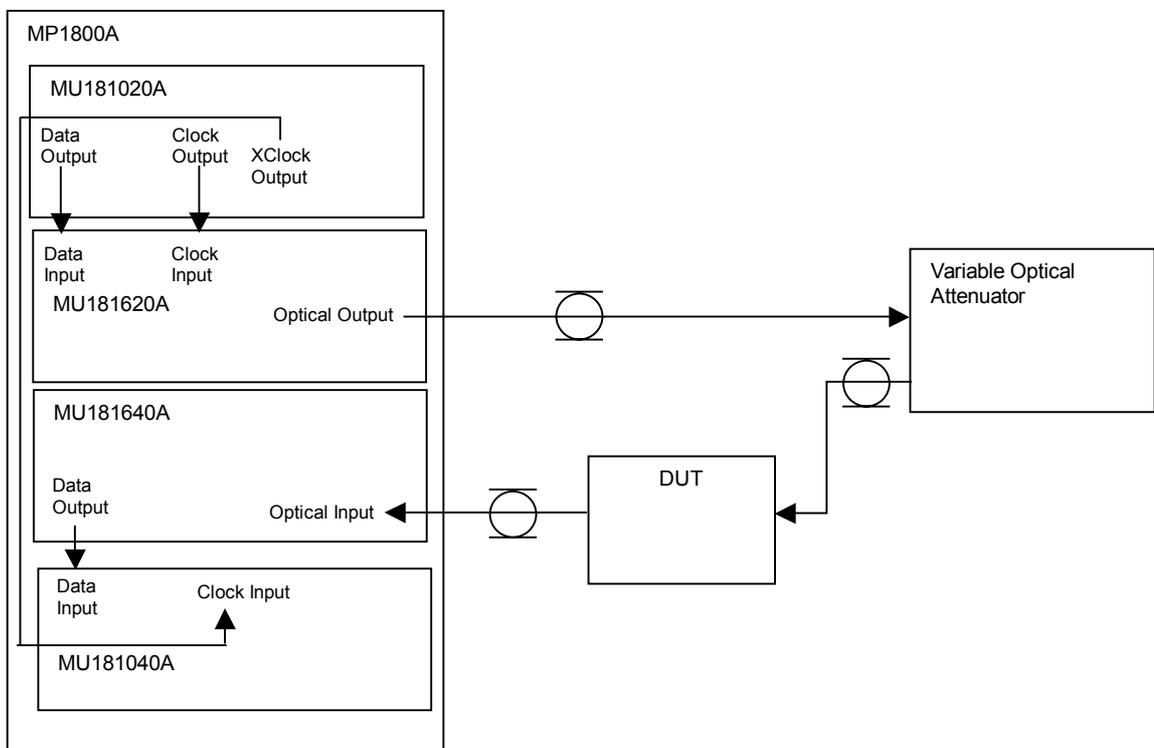

Fig. 5.1.1-1 Connection diagram
1. Connect the Optical Input connector of the DUT (device under test) and the Optical Output connector of the MU181620A via a variable optical attenuator, and connect the optical output signal of the DUT to the Optical Input connector of the MU181640A (see Fig. 5.1.1-1). Next, connect the Data Output connector of the MU181640A and the Data Input connector of the MU181040A.